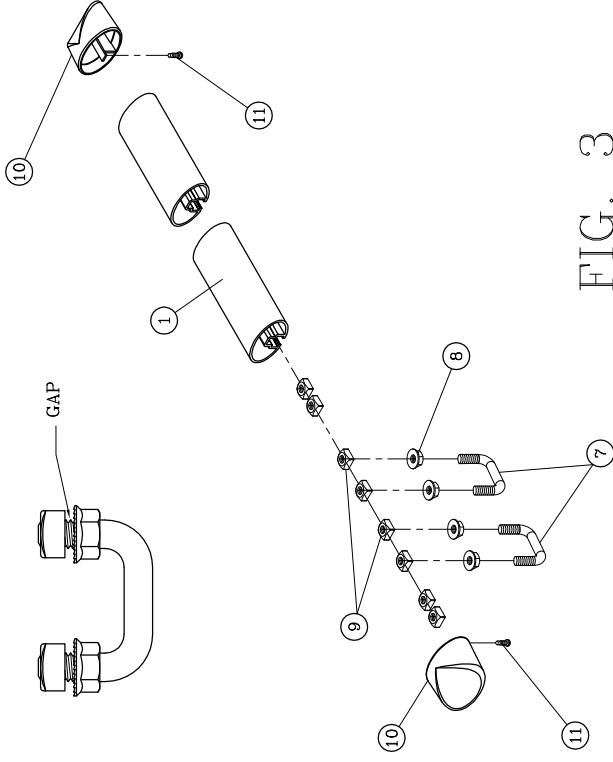

FIG. 3
- 3.1 Assemble the u-bolts (item #7) with the serrated flange nuts (item #8), and square nuts (item #9) as shown in **fig 3.** Make sure there is a gap between the (2) nuts.
- 3.2 Load each bed rail with the appropriate number of square headed nuts (item #9) and U-bolt assemblies as shown in **fig 3.** Make sure that you place (2) square nuts in front of the forward u-bolt assembly, and (2) square nuts behind the back U-bolt Assembly.